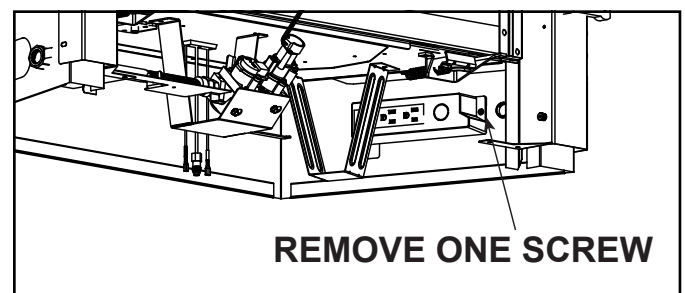

Figure 8.3 Junction Box Detail - COSMO32-IFT-B
**COSMO32-IFT-B:** The junction box is secured to the fire-place outer wrap. Remove one screw. See Figure 8.3.